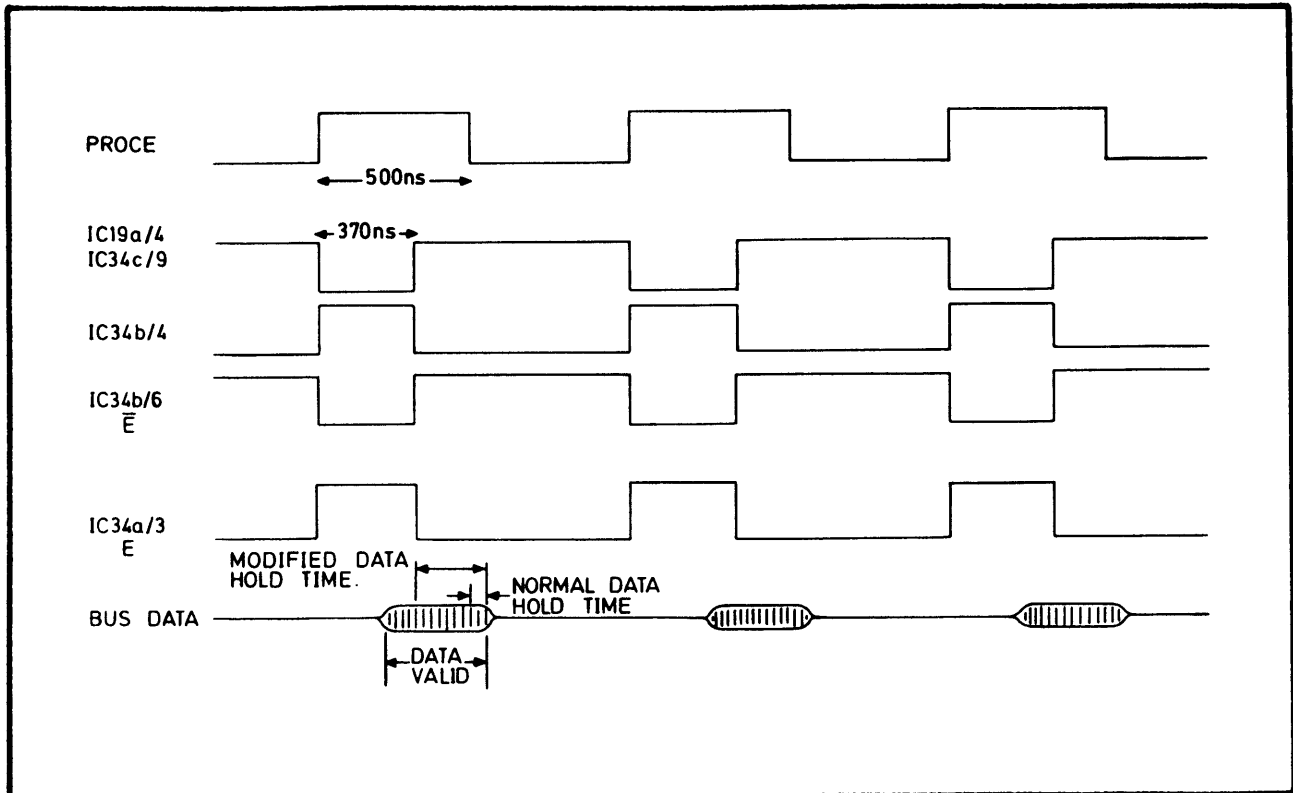

Fig. 6.9 Timing Modification Waveforms - Write Operation
6.5.4.4.7 During microprocessor write operations, IC34c/10 is held at logic '1', and the level at IC34b/4 is governed by the  $\bar{Q}$  output of the monostable circuit, IC19a. The operation of the circuit is illustrated in Fig. 6.9. It can be seen that the active (positive-going) edge of the  $\bar{E}$  waveform now occurs before the active (negative-going) edge of PROCE, and the data hold-time, for which valid data can be read from the bus, is increased.